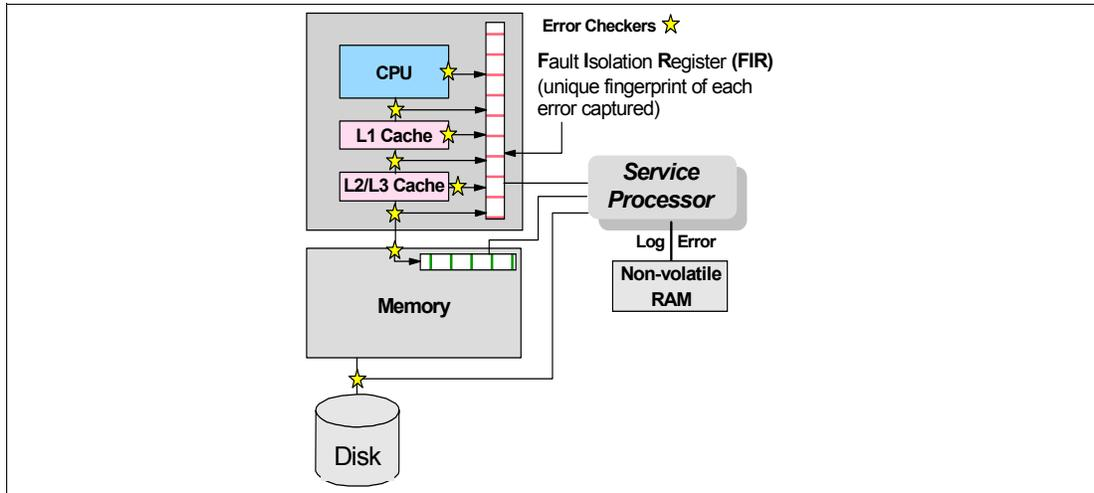

Figure 3-1 Schematic of Fault Isolation Register implementation
Any errors detected by the pervasive error checkers are captured into Fault Isolation Registers (FIRs), which can be interrogated by the service processor (SP). The SP in the p5-550 has the capability to access system components using special purpose service processor ports or by access to the error registers (Figure 3-1).